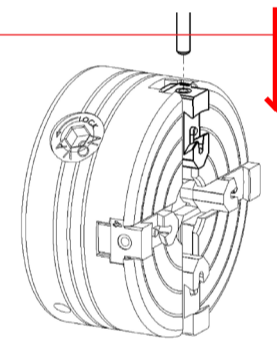

FIG 2
2. Push in the Lock Push Pin on the back of the Jaw Side Using the pin in the end of the Chuck Key Handle to release the locking mechanism (Figure 2).